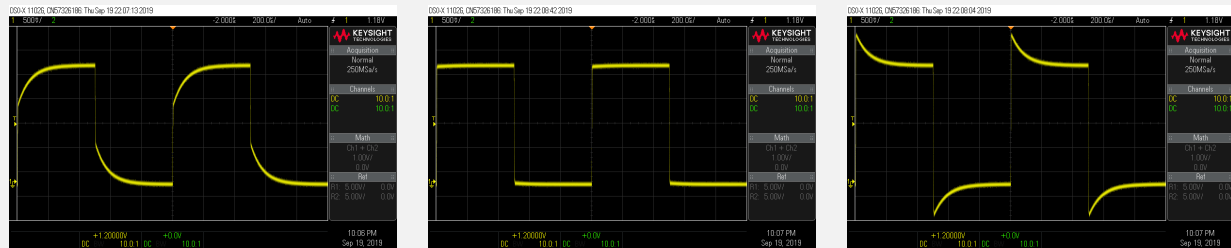

Figure 5: Square waves from probes with different compensations. From left to right: over-compensated, well-compensated, under-compensated.
4. Measure two instances of the time constant,  $\tau$ —one when the oscilloscope probe is fully under-compensated and one when the oscilloscope probe is full over-compensated. (The oscilloscope waveforms should appear similar to those shown in Fig. 5.)
As you can see in Figure 5, when compensating the probe using the oscilloscope's reference signal, you can have either overshoot or undershoot on the square wave. You can attach the probe tip to the probe compensation terminal and connect the probe to an input of the scope. Viewing the square wave reference signal, make the proper adjustments on the probe using a small screw driver so that the square waves on the scope screen look square. What you are adjusting is a variable capacitor at the tip of the probe. If low-frequency adjustment is not properly made, this will result in high-frequency inaccuracies in your measurements. It's very important to make sure this compensation capacitor is correctly adjusted.